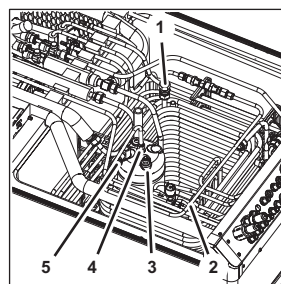

Figure 90
7. Disconnect the coupling (Figure 90/1) of pre-cooling coil 2.
8. Disconnect the coupling (Figure 90/4) of pre-cooling coil 2 from the carbonator tank (Figure 90/3).
9. Lift the connecting line (Figure 90/2) of pre-cooling coil 2 out of the unit.
10. Disconnect the CO₂-IN line from the coupling (Figure 90/5).
37. Attach the CO₂-IN line to the coupling (Figure 90/5).
38. Position the connecting line (Figure 90/2) of pre-cooling coil 2 within the unit.
39. Attach the coupling (Figure 90/4) of pre-cooling coil 2 to the carbonator tank (Figure 90/3).
40. Attach the coupling (Figure 90/1) to pre-cooling coil 2.